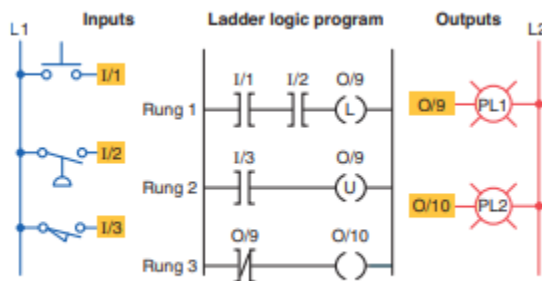

Figure 6-69 Ladder logic program for Problem 3.
91. Study the ladder logic program in Figure 6-69 , and answer the questions that follow: a. Under what condition will the latch rung 1 be true? b. Under what conditions will the unlatch rung 2 be